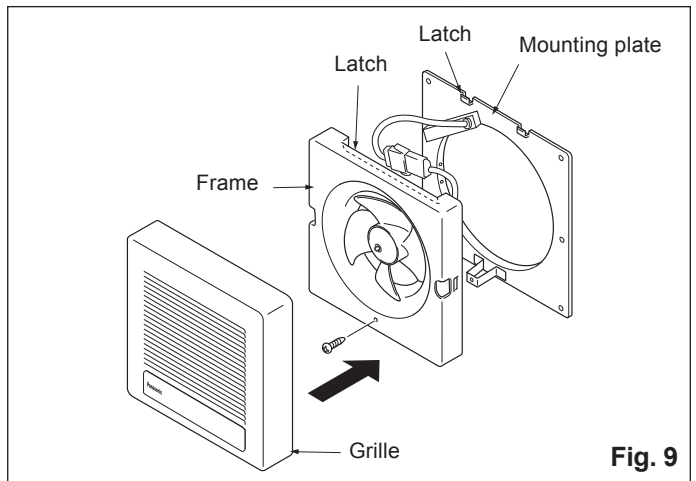

Fig. 9
- Attach the electrical connectors to each other, hook the frame latches onto the mounting plate latch, and secure the fan unit to the mounting plate with the supplied screw (screw III). (Fig 9)